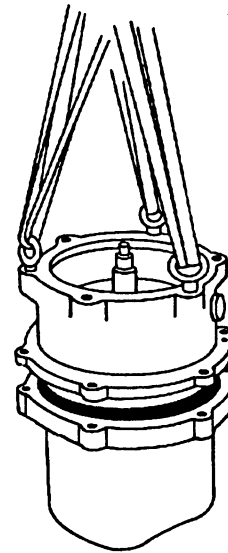

Figure 4. Separating Upper and Lower Motor Housings
Slide the seal spring over the shaft and bellows retainer, and install the spring holder (18). Install the seal retaining ring (17). See Figure 4 for proper order of seal assembly.
Unpack the stationary seat, and check that the O-rings are properly installed (see Figure 4). Press the stationary element into the seat, making sure that the grooves in the element engage the lugs on the seat. Apply a **light** coating of oil to the seal plate bore and the outer O-ring. Keep the sealing face dry.
See Figure 4, and install three 5/8-11 UNC lifting eyes (not supplied) in the tapped holes for the capscrews (58) in the lower motor housing, and hook a three-leg sling to the lifting eyes. Use a suitable hoist to support the pump.